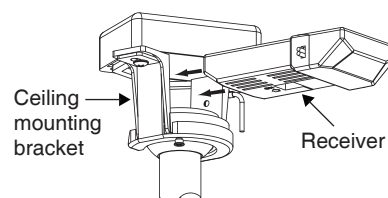

Fig. 8
2. Insert the receiver into the mounting bracket with the flat side of the receiver facing the ceiling. (Fig. 8)